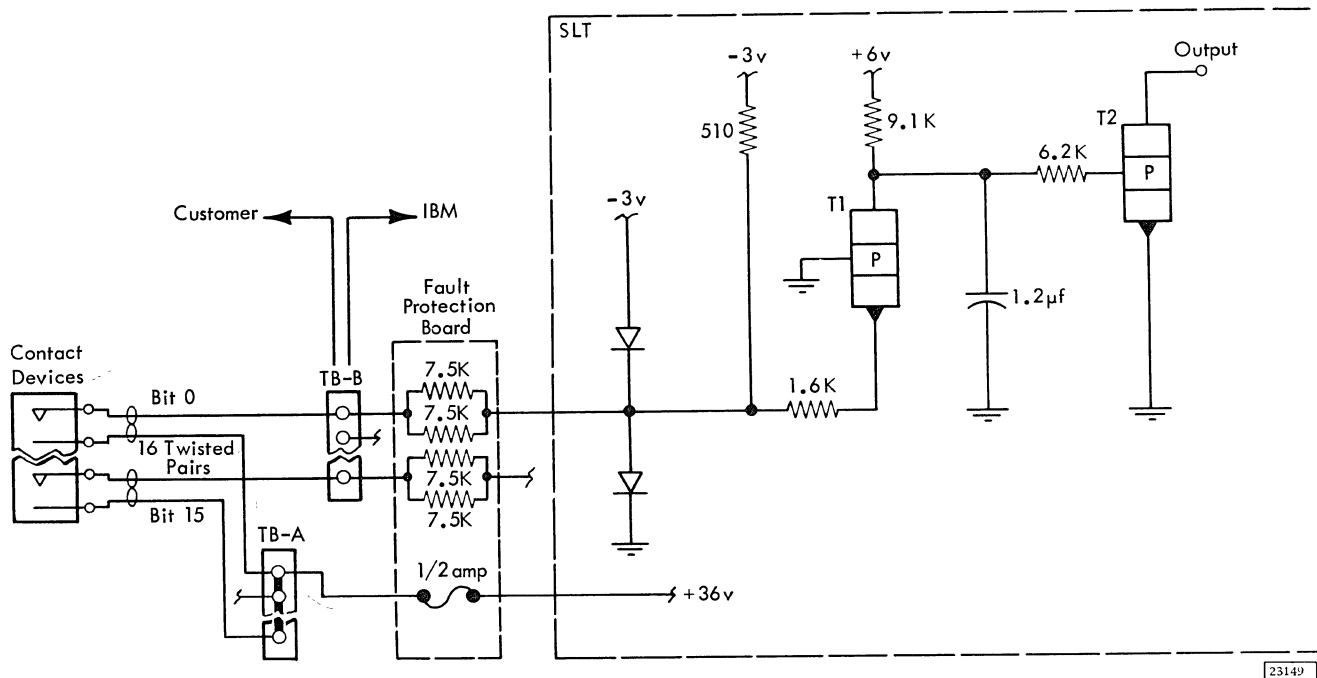

Figure 20. Process Interrupt and Digital Input, Contact Closure Schematic (simplified)
14. Circuit Description: See Figure 20.